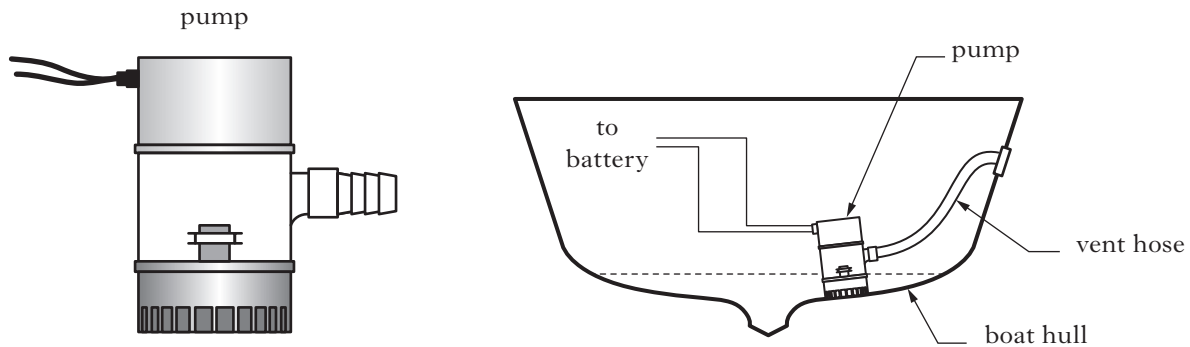

Figure Q9(a)
9. Figure Q9(a) shows an electric “bilge” pump, which can be placed in the bottom of a small boat to pump out any water which may accumulate.